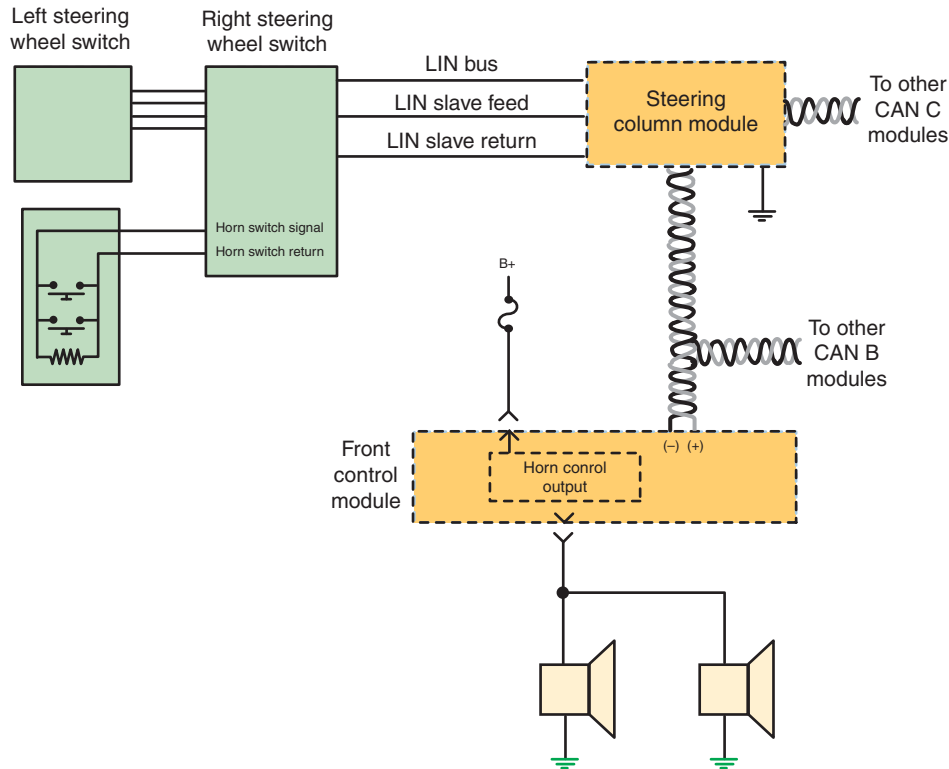
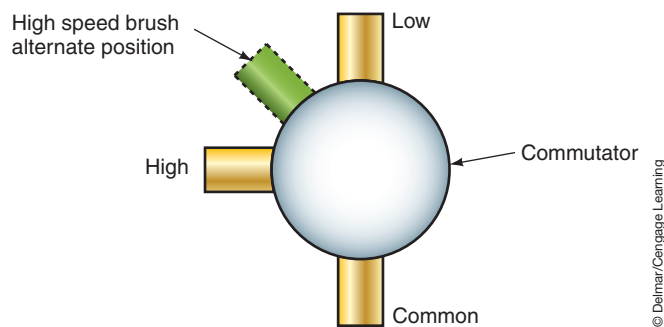

FIGURE 14-8 Horn circuit utilizing computers and bus networks.
FIGURE 14-11 The most common brush arrangement is to place the low-speed brush opposite of the common brush.
Many vehicle manufacturers now use a module (or series of modules) to operate the horn. This reduces wiring and utilized modules that can perform multiple functions. As a side effect to the use of modules, many are capable of performing diagnostic routines and setting DTCs to assist the technician in diagnostics. Consider the system illustrated in Figure 14-11. In this system, the steering wheel switches are used for radio and navigational system controls. The left steering switch is hard wired to the right switch. However, the right switch is more than just a switch. It is a slave microprocessor that puts inputs it receives onto the LIN bus to the master LIN module (steering column module). The steering column module then puts the message onto the CAN B bus network so other modules receive the input request made by the operator using the steering wheel switches. In Figure 14-8, the right steering wheel switch (LIN slave module) monitors the horn switch input. If the vehicle operator presses the horn switch, the right steering wheel switch sees a change in voltage on the signal circuit. It then broadcasts the horn request signal to the steering column module. The steering column module in turn broadcasts the request on the CAN B bus network to the front control module. The front control module then activates a high-side driver to supply current to the horns. As you can see from this example, this system uses three microprocessors and two bus networks to operate the horns.
2. The low-speed and common brushes oppose each other with the high-speed brush offset or centered between them (Figure 14-11). This is the most common brush arrangement.